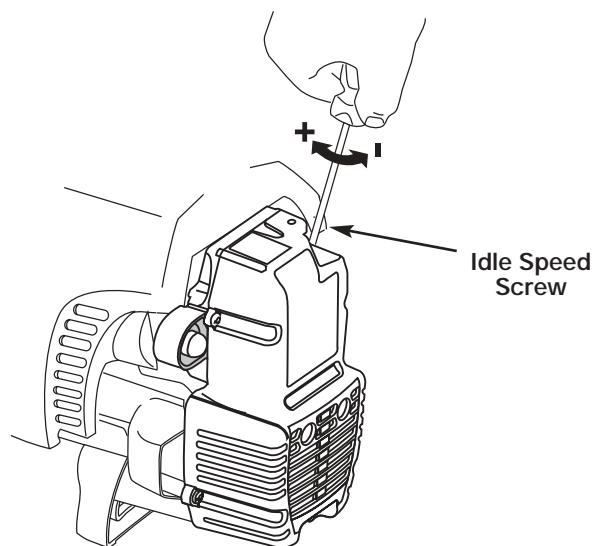

Fig. 23
The idle speed of the engine is adjustable through the air filter/muffler cover (Fig. 23).
2. Move the throttle control to the idle position and let the engine idle. If the engine stops, insert a small phillips screwdriver into the hole in the air filter/muffler cover (Fig. 23). Turn the idle speed adjuster in, clockwise, 1/8 of a turn at a time (as needed) until the engine idles smoothly.